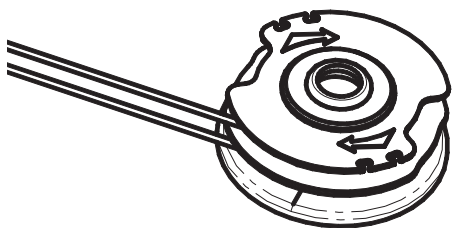

Fig. 23
4. Wind the line onto the spool by turning the spool as the arrows shown in Fig. 23.